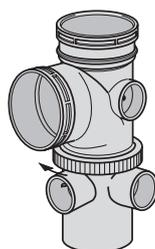

Fig.31c Tightening locking ring
Step 3 – Re-tighten locking ring (Fig.31c)